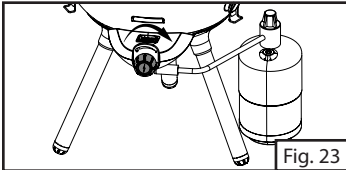

Fig. 23
1. Turn the control knob clockwise until it stops. (Fig. 23)